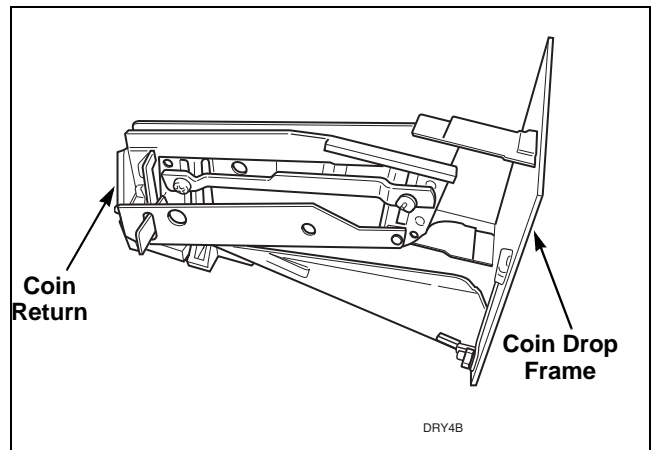

Figure 64
- Remove coin return from coin drop frame. Refer to *Figure 64*.